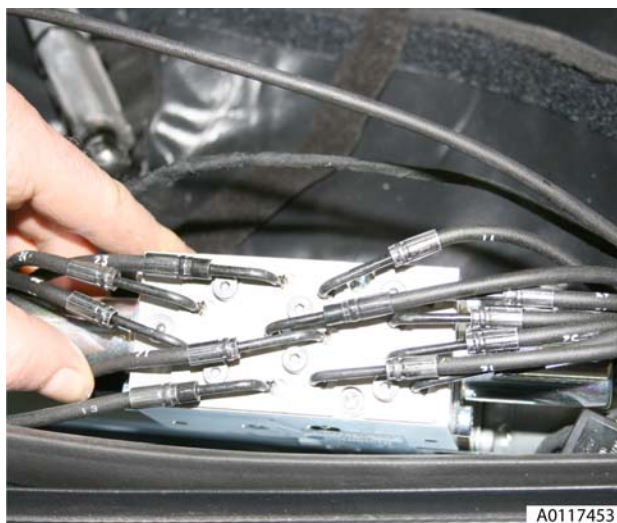

Figure 9
12. Loosen (x6) screws on pump retaining plate (see Figure 9).